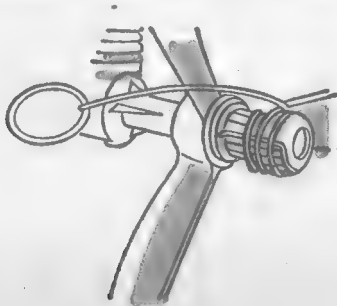

Fig. 57
6. To start the engine, lay the plain end of the starter cord in one of the grooves in the propeller hub spinner, wrap the cord counterclockwise around the spinner several times, and pull with a fast steady motion (Figure 57). Or flip the propeller with a quick, snappy motion in a counterclockwise direction. The engine may start backward (clockwise rotation). If this happens, stop it by using a cloth and flip the prop again sharply. (It is not possible to control reverse starts. They are not a sign of an engine defect.)